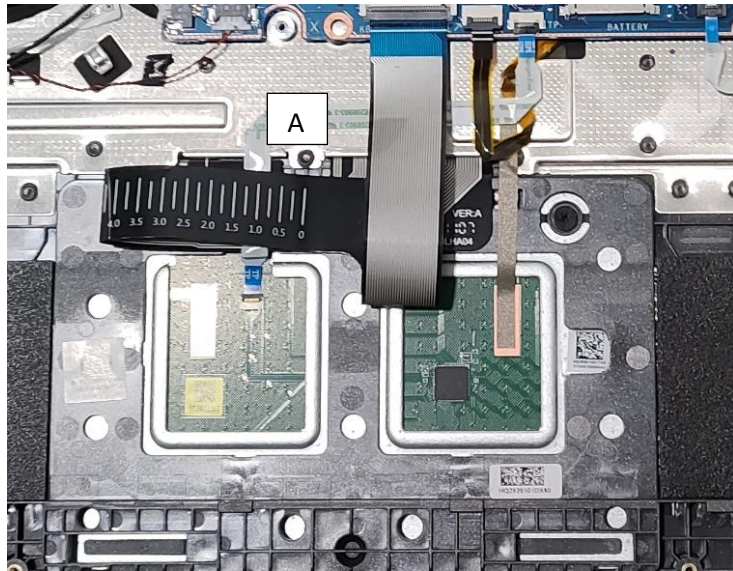

Figure 3-10. Touchpad Module Removal
1. Detach the adhesive tape (A) securing the touchpad FFC on the touchpad module. (Figure 3-10).